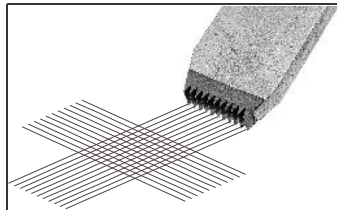

Figure 1. Cut twice to give lattice pattern
2. Place the cutting tool on the sample at 90° to the first cut and repeat step 1 to create a lattice pattern on the coating (Figure 1).